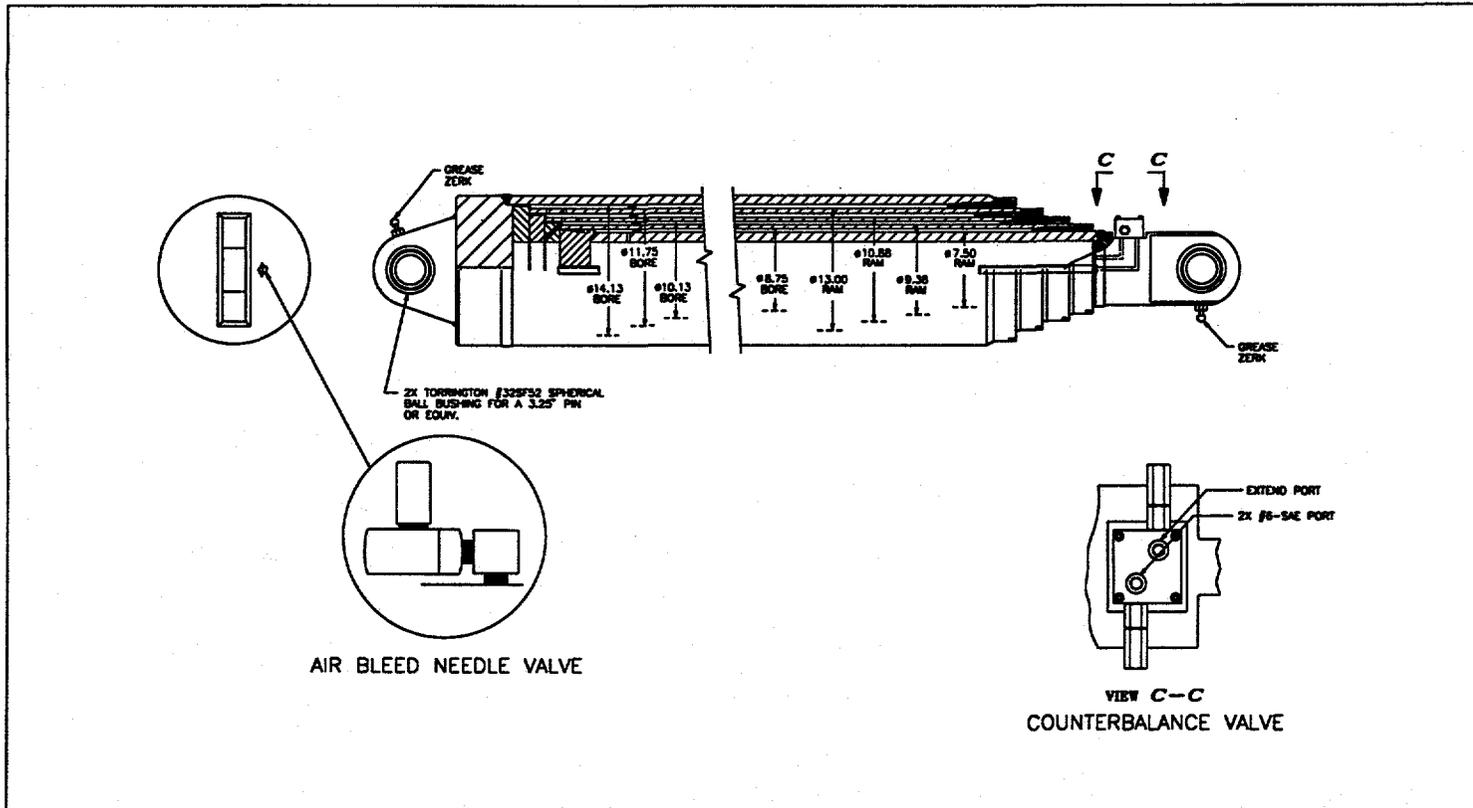

FIGURE 9, TELESCOPIC CYLINDER
- 1 Telescopic cylinder end bearings: Grease both ends through grease zerks (Figure 9, page 21).
- 2 Bleed the extend stage of the cylinder by attaching the bleeder hose assembly to the needle valve on top of the cylinder. Make sure the needle valve at the end of the bleeder hose is closed then open the needle valve located at the top of the cylinder (Figure 9, page 21).
- 5 If signs of air persist through the first three (3) stages of the cylinder translation repeat steps 3 and 4.
- 5 Attach rigging to the cylinder in a manner that will prevent the load from swinging and possibly injuring personnel when the lower pin is removed. Be careful not to damage the counterbalance valve (Figure 9, page 21).
- 1 Hoist the cylinder into position on the trailer and insert the lower pivot pin from the left side (street side) of the trailer. Be careful not to damage the counterbalance valve (Figure 9, page 21).